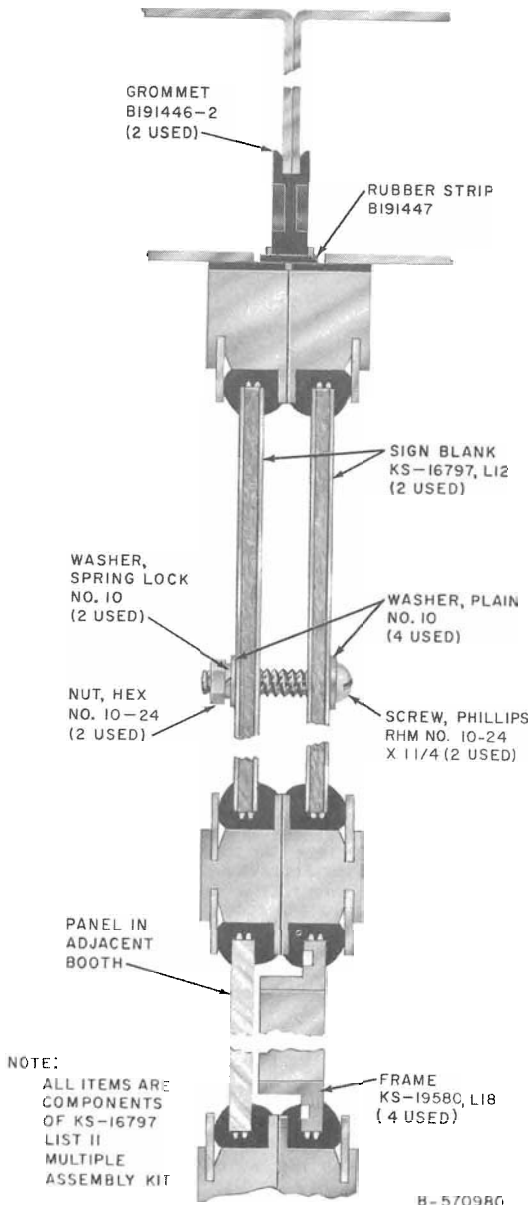

Fig. 16—KS-16797, List 11 Multiple Kit
**2.26** A KS-16797, List 11 multiple kit (Fig. 16) is available for side-by-side or back-to-back assemblies. It consists of the following: